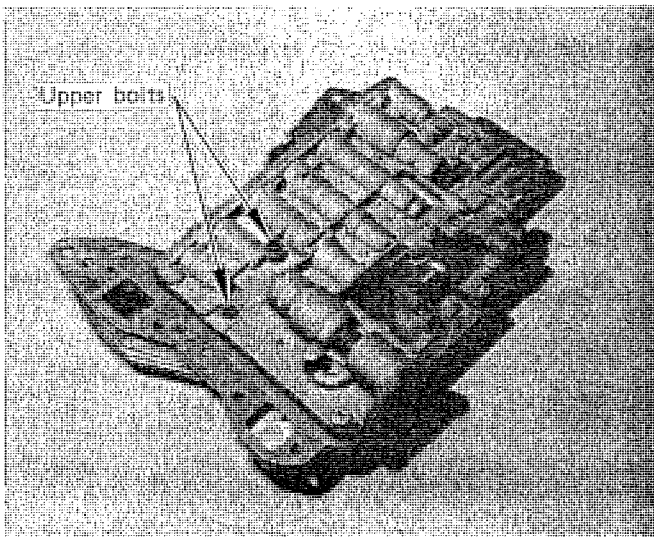

FIGURE 3
**STEP 5.** Lay the valve body on the bench with the filter side down. Remove the two upper bolts. (See Fig. 3) Note: One is short and one is long. Set them aside.
**STEP 20.** Turn valve body over and install one short and one long bolt in position (See Fig. 3), tighten 30 to 45-in.lbs. The valve body is now complete.